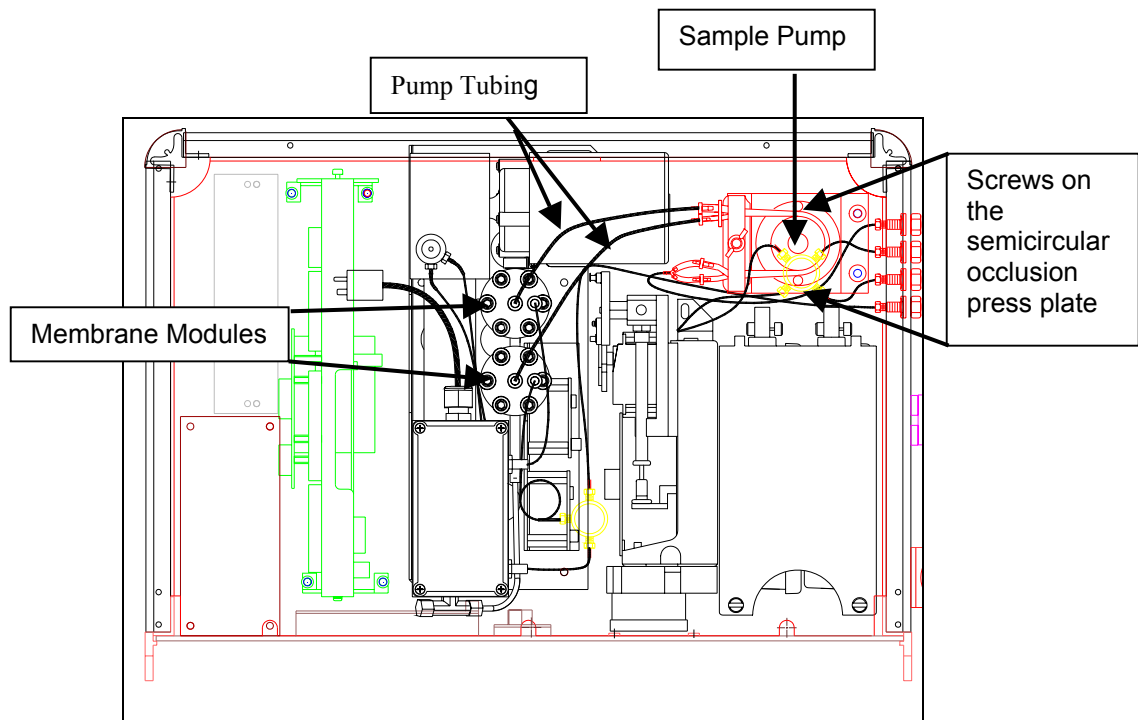

Figure 8-4: Pump Tubing and Components
3. Locate the sample pump and tubing support bracket located at the back, right-hand corner of the analyzer (see Figure 8-4). The support bracket is a plastic piece just to the left of the pump.
6. Remove the screw from the pressure plate closest to the front of the analyzer (see Figure 8-4) and swing the plate open to expose the tubing.